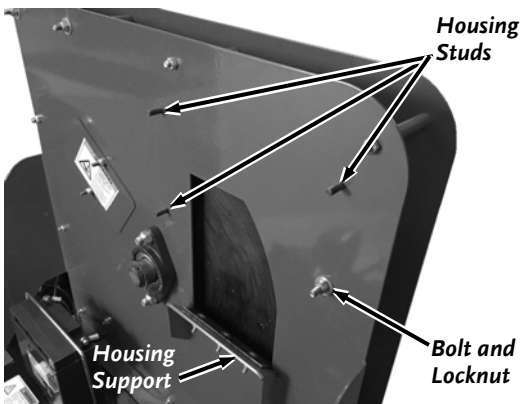

Figure 15b: 21.0
1. Remove and discard the Shipping Nut from the Housing Bolt with two 1/2" Wrenches, but leave the Housing Bolt in place (**Figure 15b**.)